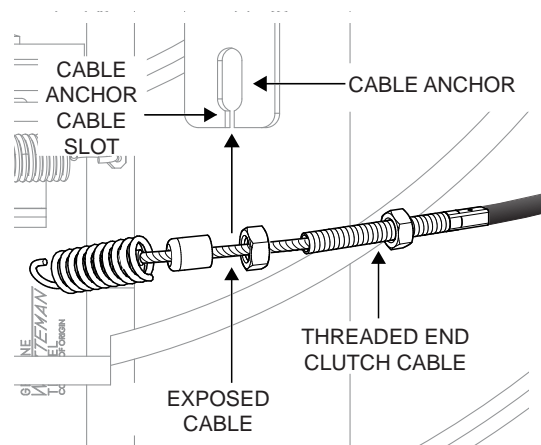

Figure 19. Inserting Clutch Cable Into Cable Anchor
- Insert the exposed cable (Figure 19) into the cable slot on the cable anchor.